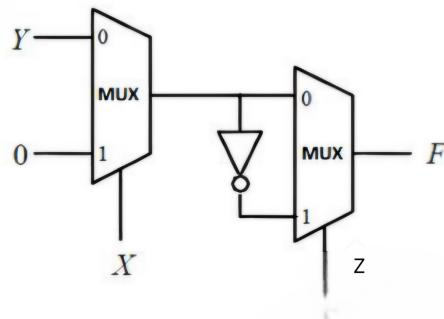

Fig. 3.10
21. Find the logic function implemented by the circuit given below in Fig. 3.10.